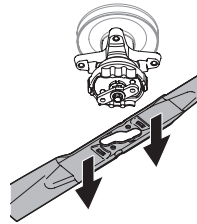

Figure 5
- When the hole in the center of the blade aligns with the tractor blade retainer, carefully lower the blade. See Figure 5.